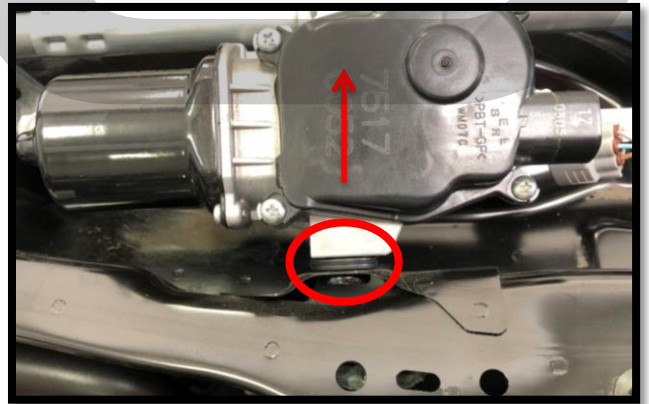

Figure 1i
p) Remove the wiper motor from the vehicle. It is secured with a stud in rubber grommet. It must be pulled free toward the windshield before it can then be removed from the vehicle. Shown with **red markings** in **Figure 1i**.